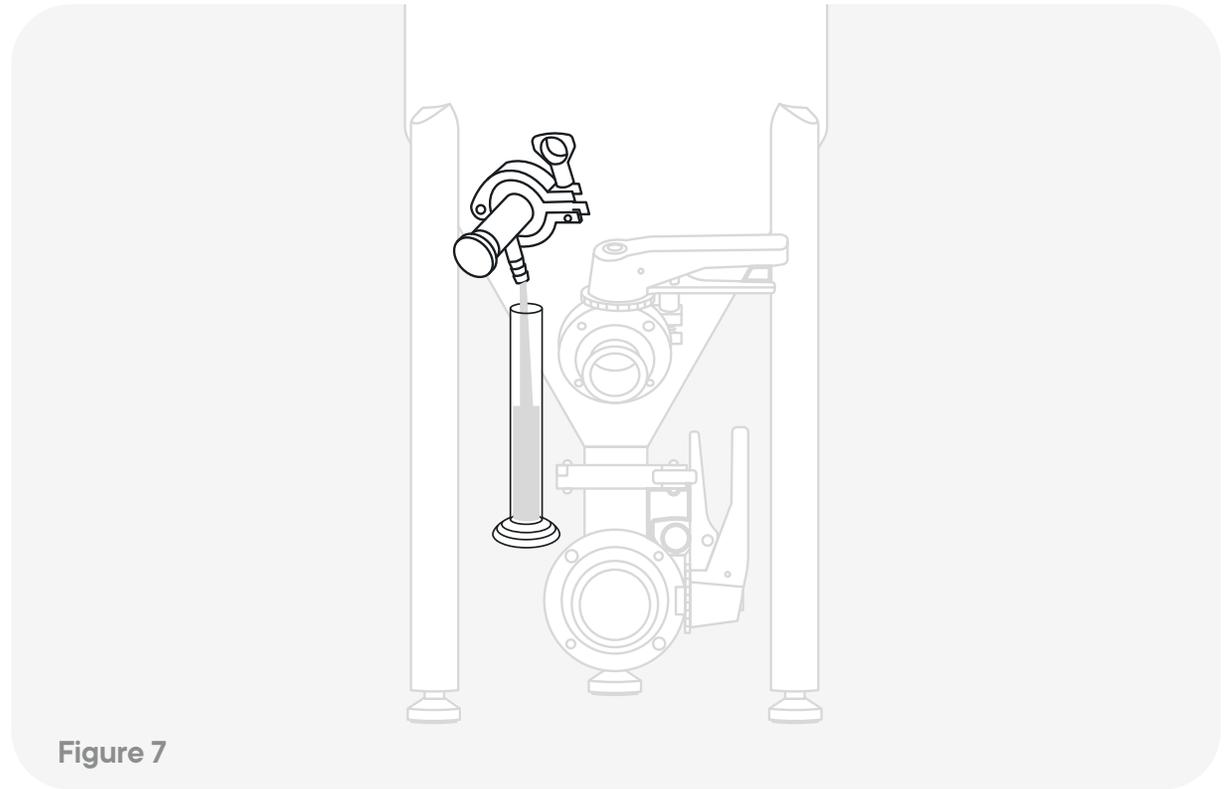

Figure 7
2. Instead, we recommend using the sample valve and filling a hydrometer with a sample to check gravity as fermentation moves along. (see **Figure 7**)